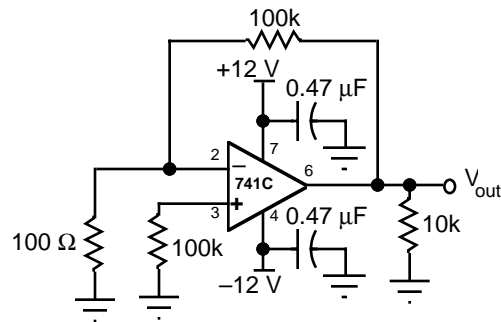

Fig. 8.4
b) *Output Offset Voltage.* Connect the circuit of Fig. 8.4 using a 741C op amp.